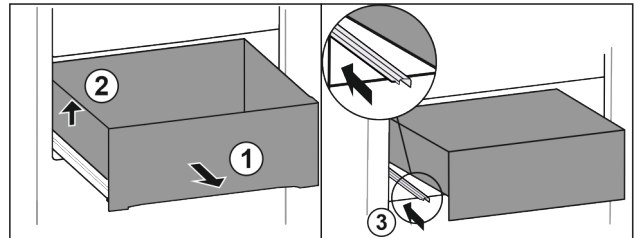

Fig. 85
- ▶ Pull out drawer as far as it will go. Fig. 85 (1)
- ▶ Lift drawer on the left. Fig. 85 (2)
- ▶ Insert left rail. Fig. 85 (3)